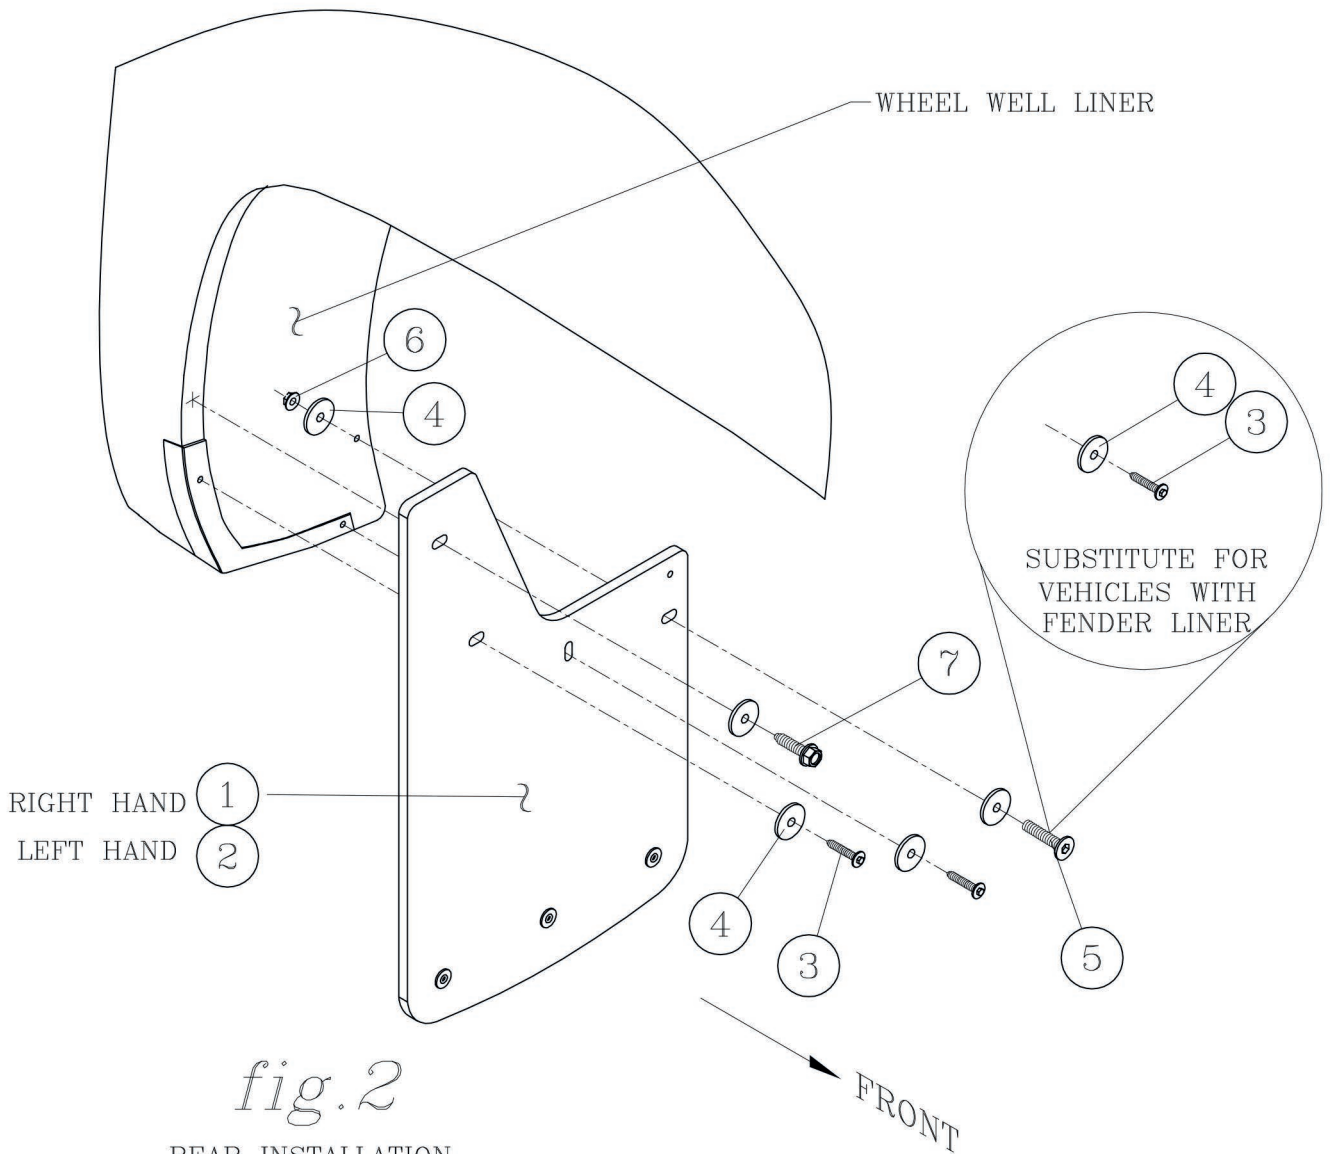

fig. 2
- 3.1 REMOVE THE TWO FACTORY SCREWS THAT HOLD THE PLASTIC GUARD IN PLACE AND THE INNER FENDER LINER SCREW (FIG 2). **(THESE SCREWS ARE NOT REUSED, BUT THE PLASTIC GUARD WILL REMAIN).** **NOTE: IF THE VEHICLE HAS A FACTORY FENDER WELL LINER REMOVE THE INSIDE SCREW HOLDING THE FENDER LINER ON AS SHOWN IN FIG. 2.**
- 3.2 POSITION THE SPLASH GUARD AGAINST THE WHEEL WELL FLANGE AND INSTALL THREE HEX HEAD SEMS SCREWS WITH FENDER WASHERS (ITEMS #3, 4) THROUGH THE THREE LOWER HOLES AS SHOWN IN FIG. 2. AND TIGHTEN DOWN.